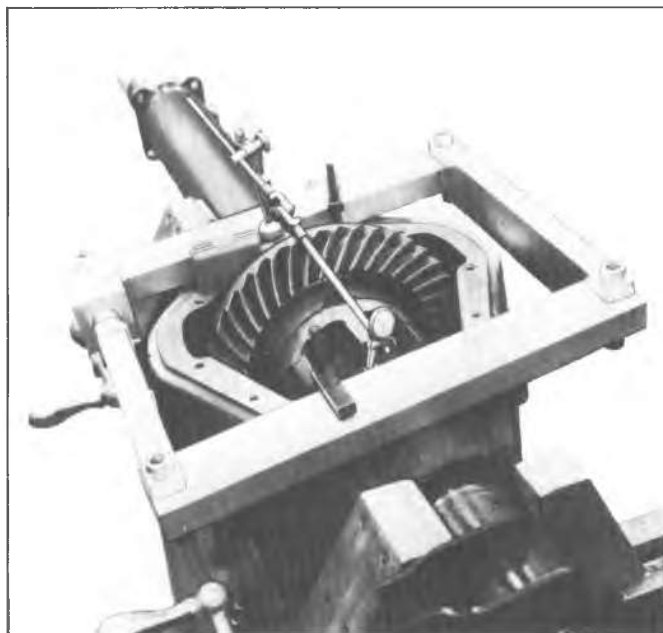

Fig. 15F—Tool J-24385 Mounted on Carrier
- Using spreader Tool J-24385 and dial indicator as shown in figure 15F, spread carrier a maximum of .020".